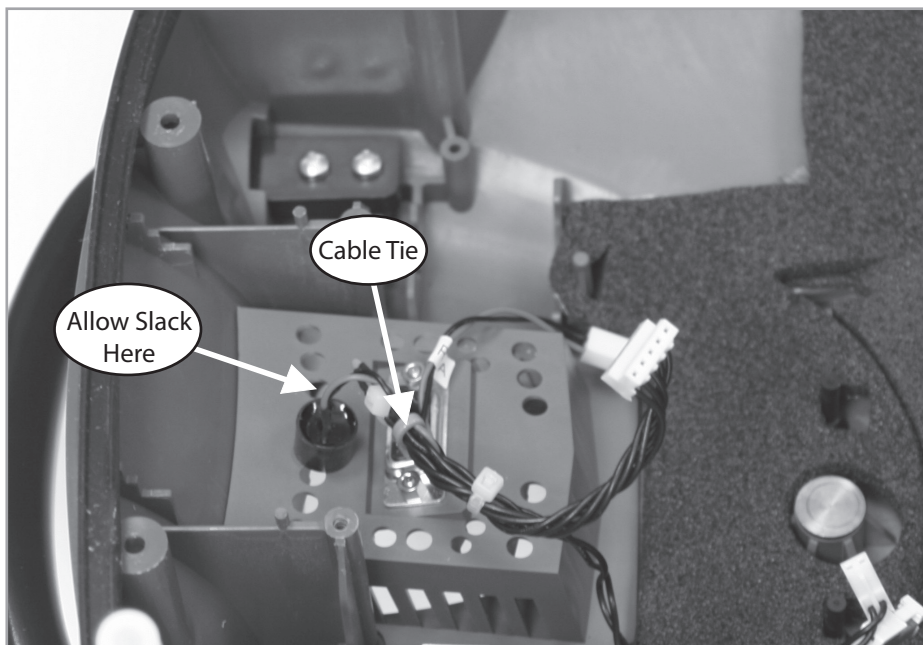
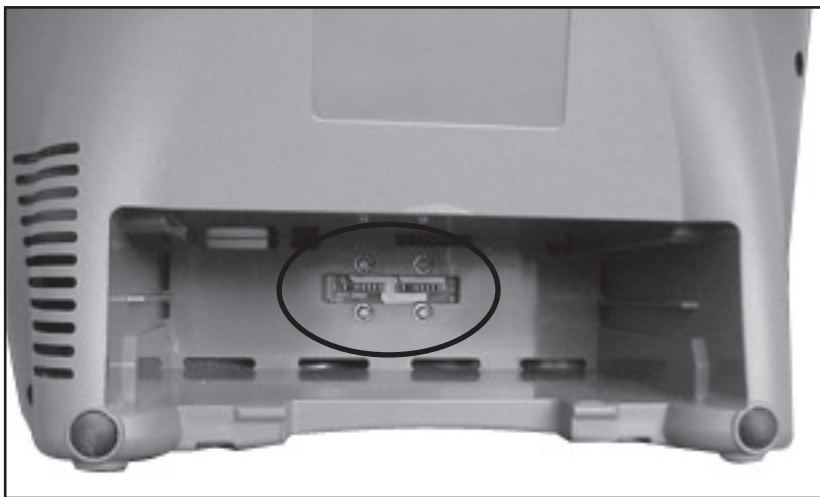

Figure 54: Buzzer Installation.
Fig 63: Screws
5. Place buzzer as shown in figure 54. Ensure that the buzzer opening is centered over the grill hole. Hold in place until adhesive cures.
6. Install the Control Board Assembly. Secure the wire harness with Cable as shown on Figure 54. Insure that there is a slack on the wire harness before tightening the Cable Tie. Plug in the buzzer.
1.1 Remove the Power Cartridge and unscrew the 4 screws holding the BBB pcb to the case (PN: 6974-312-SEQ) shown in Fig 63.
1.3 Disconnect the 5 wire harnesses as shown in Figure 54. Remove the Battery Bridge pcb (BBB pcb) as shown in Fig 63 (Pull straight up and off of the Power Manager pcb.)